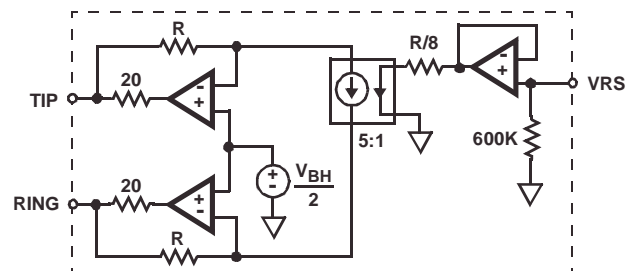

FIGURE 7. LINEAR RINGING MODEL
When the COF RAM button is selected from the MPI Operation General Interface screen, the COF RAM Operation screen will appear (Figure 7). From this screen, the user can load the coefficients for the current channel.
4. From MPI Software screen, Select COF RAM. The Coefficient Ram Operation screen will appear (Figure 7).